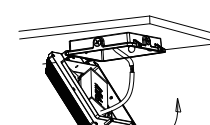

Figure 2-7
7. Turn the radiator up then cover the driver box; Figure 2-7